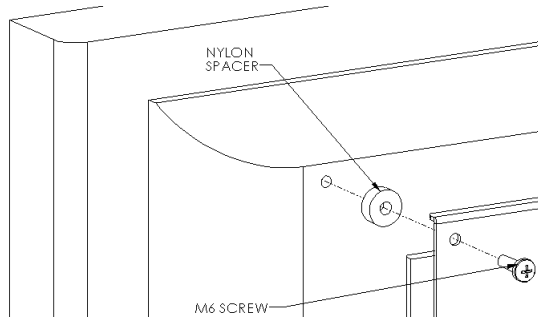
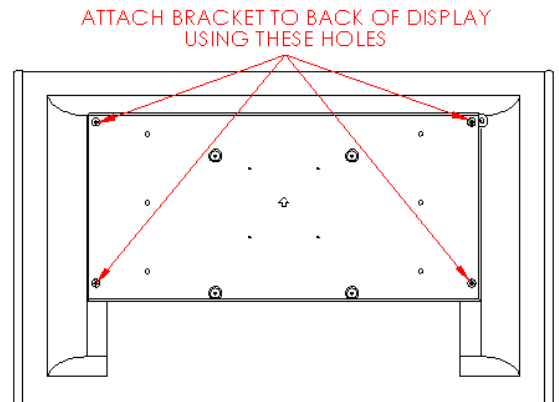

Figure 4
Figure 5
2. **Bracket Installation:** Attach bracket to back of display using the M6 screws and nylon spacers (see Figure 4 & Figure 5).